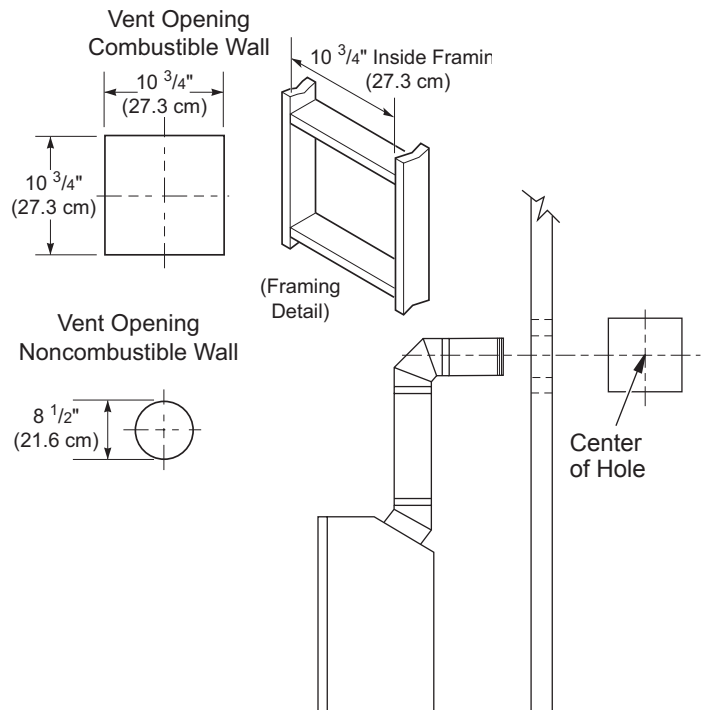
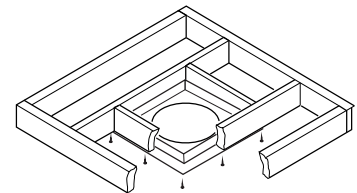

Figure 9 - Vent Opening Requirements
Figure 20 - Installing Firestop
- Carefully determine the location where the vent pipe assembly will penetrate the outside wall. The center of the hole should line up with the center-line of the horizontal vent pipe. Mark the wall for a 10 3/4" x 10 3/4" square hole. Cut and frame the square hole in the exterior wall where the vent will be terminated. If the wall being penetrated is constructed of noncombustible material, such as masonry block or concrete, a 8 1/2" hole with zero clearance is acceptable (see Figure 9).
1. Cut a 10 3/4" square hole in the ceiling using the locating hole as a center point. The opening should be framed to 10 3/4" x 10 3/4" (27.3 cm x 27.3 cm) inside dimensions, as shown in Figure 9 on page 8 using framing lumber the same size as the ceiling joists. If the area above the ceiling is an insulated ceiling or an attic space, nail firestop from the top side. This prevents loose insulation from falling into the required clearance space. If the area above the ceiling is a living space, install firestop below the framed hole. The firestop should be installed with no less than three nails per side (see Figure 20).
3. Cut a hole in the roof using the locating hole as a center point. (Cover any exposed open vent pipes before cutting hole in roof.) The 10 3/4" x 10 3/4" hole must be measured on the horizontal; actual length may be larger depending on the pitch of the roof. There must be a 1" clearance from the vent pipe to combustible materials. Frame the opening as shown in Figure 9, page 8.